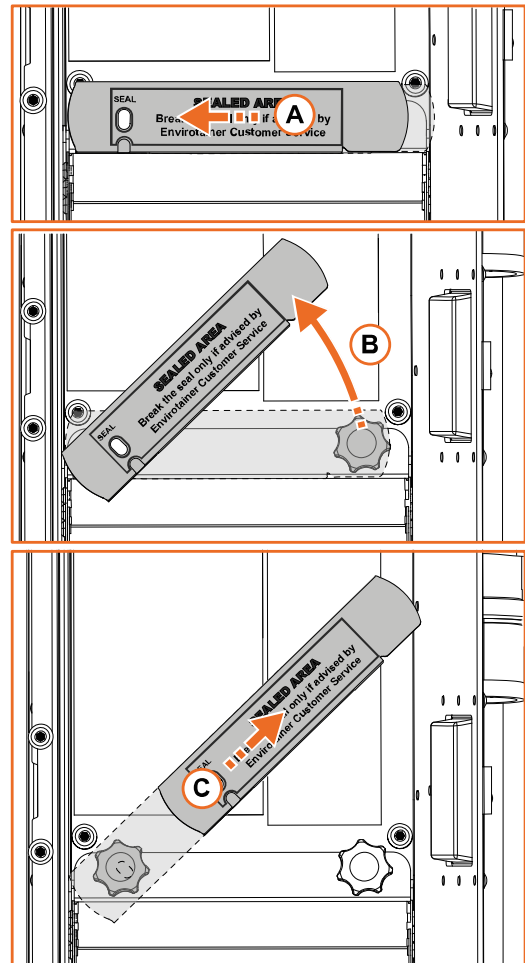

Fig. 27
3. Remove the bracket covering the two thumbscrews (**Fig. 27**):